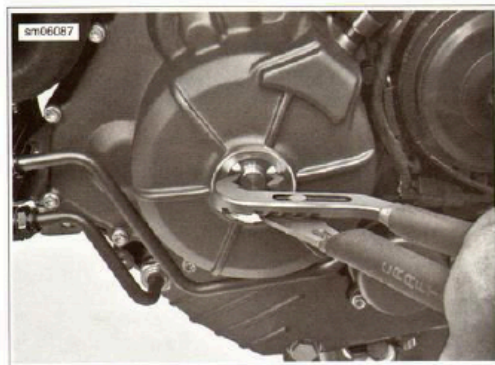

Figure 3-143. Sealing Sleeve Removal
3. See Figure 3-143. Remove sealing sleeve. Discard O-ring.